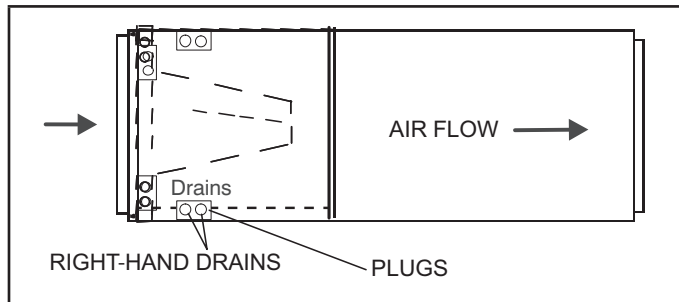

FIGURE 6. Right-Hand Discharge Configuration
- 4 - The horizontal configuration is shown in FIGURE 6.
NOTE - Horizontal runs must have an anti-siphon air vent (standpipe) installed ahead of the horizontal run. See FIGURE 6. An extremely long horizontal run may require an oversized drain line to eliminate air traps.